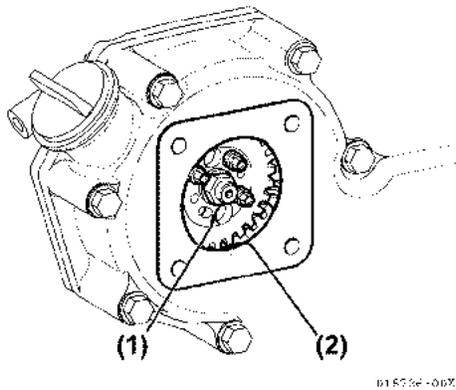

Figure 6-32
- On 3JH5E and 4JH5E models, the idler gear is not visible. Make a reference mark on the fuel injection pump drive gear (Figure 6-32, (1)) and a matching mark on the bore of the gear case opening (Figure 6-32, (2)). **NOTICE:** Do not loosen or remove the four bolts retaining the fuel injection pump drive gear to the fuel injection pump hub. Do not disassemble the fuel injection pump drive gear from the hub. Correct fuel injection timing will be very difficult or impossible to achieve.